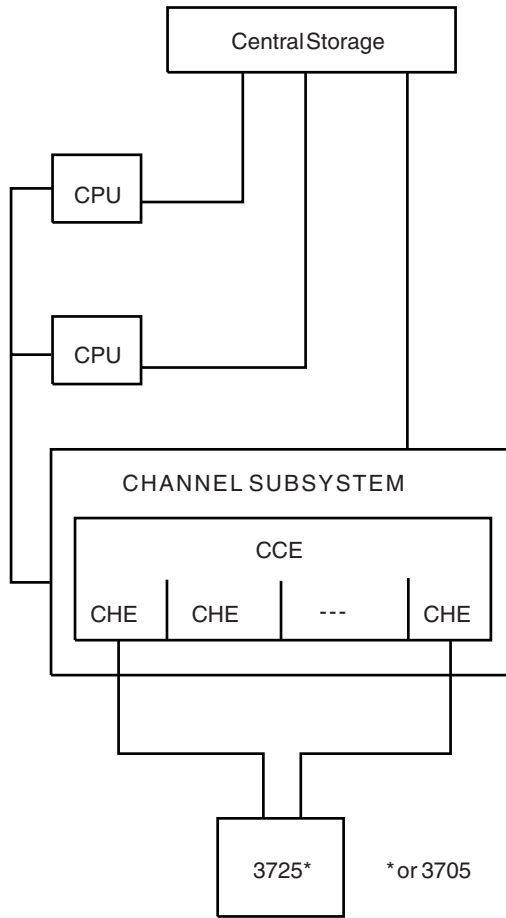

Figure 12-6. Configuration of a 3725 Communication Controller for Maximum Availability (3090 Complex)
- Figure 12-6 on page 12-6: 3725 Communication Controller